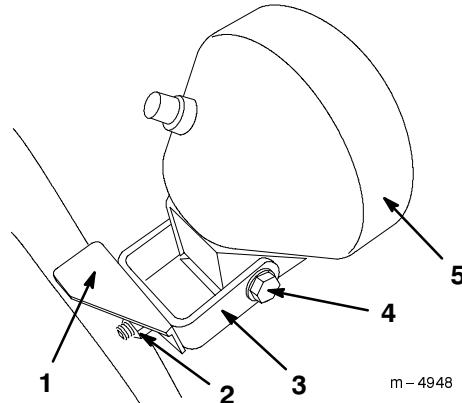

Figure 23
1. Loosen the two nuts on the U-bolt that hold the headlight bracket to the handle (Fig. 23).